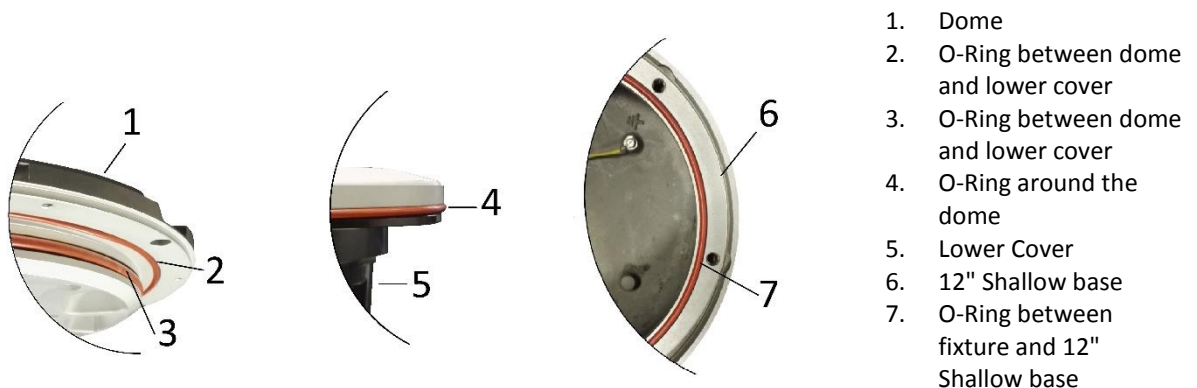

Figure 23– Fixture Gaskets
- **two** O-Ring between dome and lower cover (Figure 23 - n°2 and 3);
- O-Ring around the dome (Figure 23 - n°3);
- O-Ring between fixture and 12" shallow base (Figure 23 - n°7);